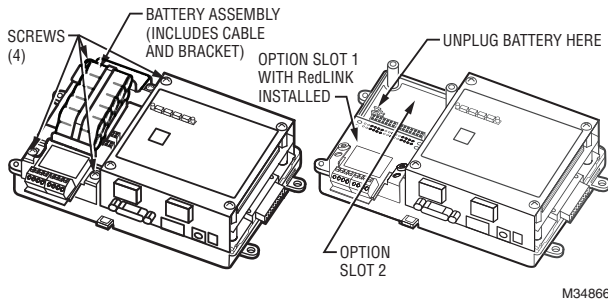

Fig. 2. Remove Screws and Battery Assembly.
RedLINK option card adaptor with two ABCD terminal blocks for connection up to two wireless adaptors, part THM4000R1000.	The RedLINK option card can be placed in option slot 1, and the addresses are Com 3 and Com 4; or in slot 2, and the addresses are Com 5 and Com 6. See Fig. 2 for location of option slots.
3. Remove the battery and bracket assembly (if installed) by taking out the four screws holding it in place and set them aside for later. Unplug the battery from the connector on the controller (See Fig. 2).